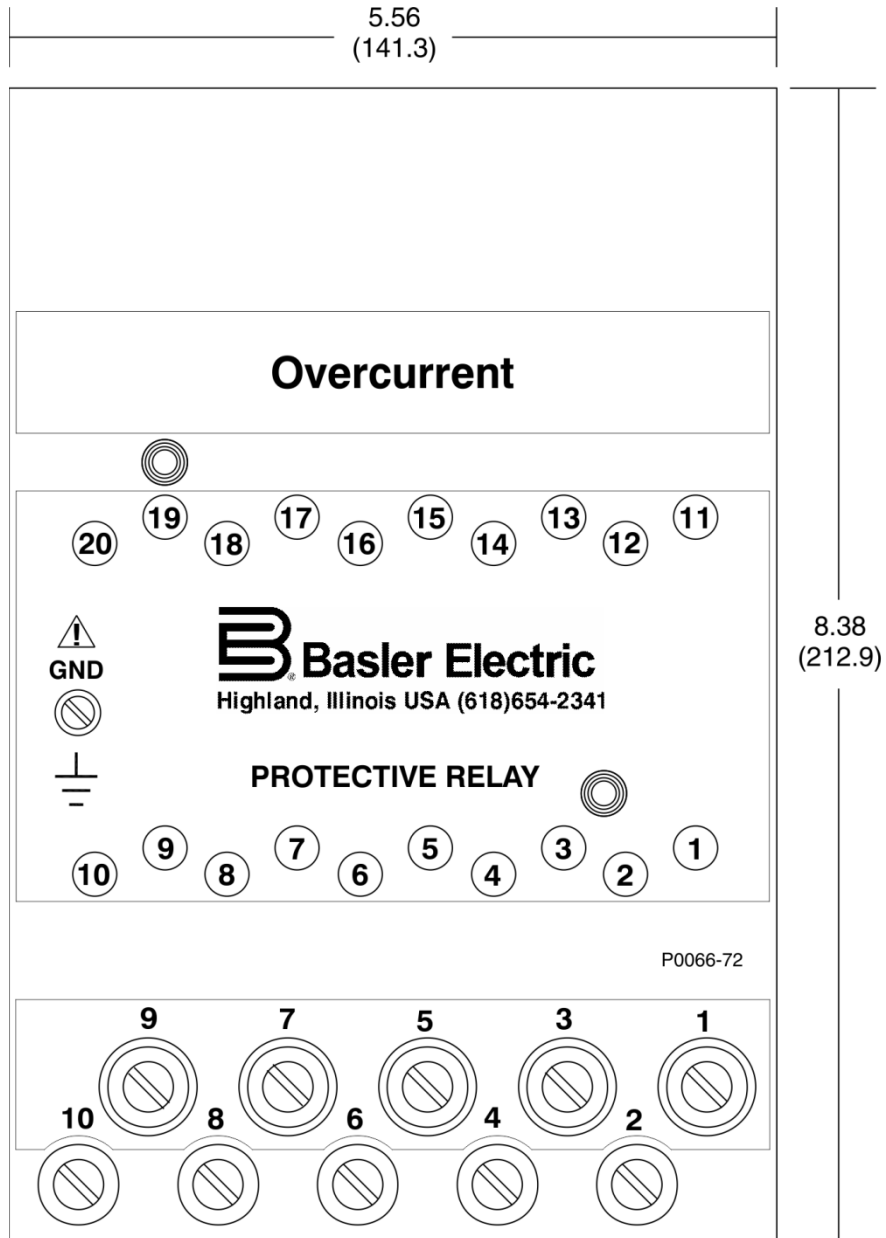

Figure 4-10. S1 Case Dimensions, Rear View, Single Ended, Projection Mount
- Figure 4-10: S1 Case Dimensions, Rear View, Single Ended, Projection Mount